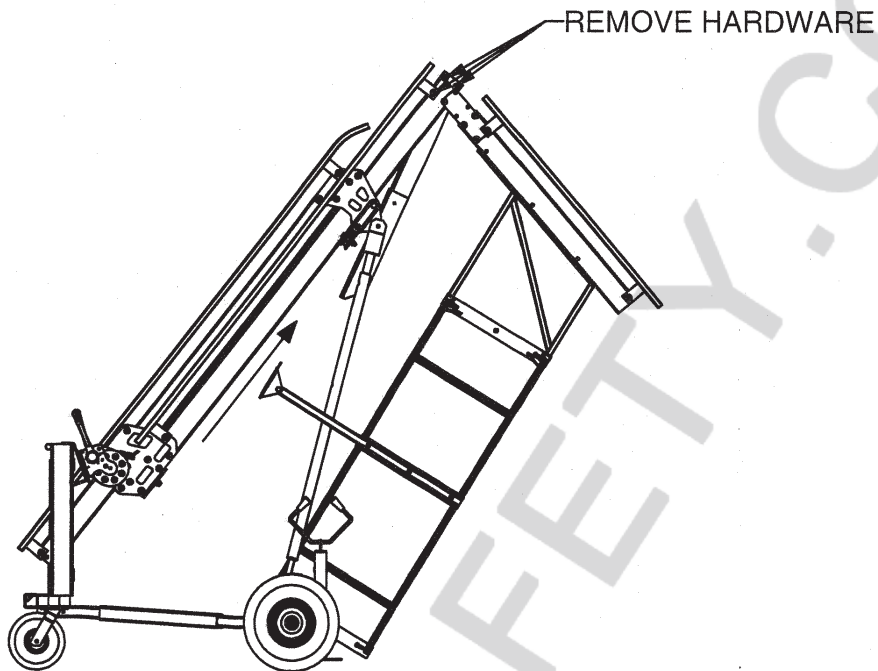

Figure 1
2. Remove any loose hardware. Raise the ladder and swing the cage up as shown in Figures 1 and 2. A forklift maybe used to lift the cage fully into position.